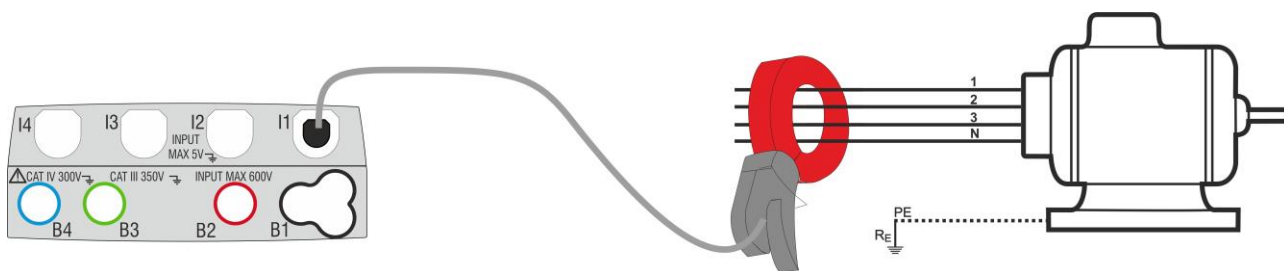

Fig. 25: Indirect measurement of leakage current in three-phase systems
5. For indirect measurements of leakage current, connect the external clamp according to Fig. 25. For direct measurements of leakage current, connect the clamp according to Fig. 26 and disconnect possible additional earth connections that could influence the test results.